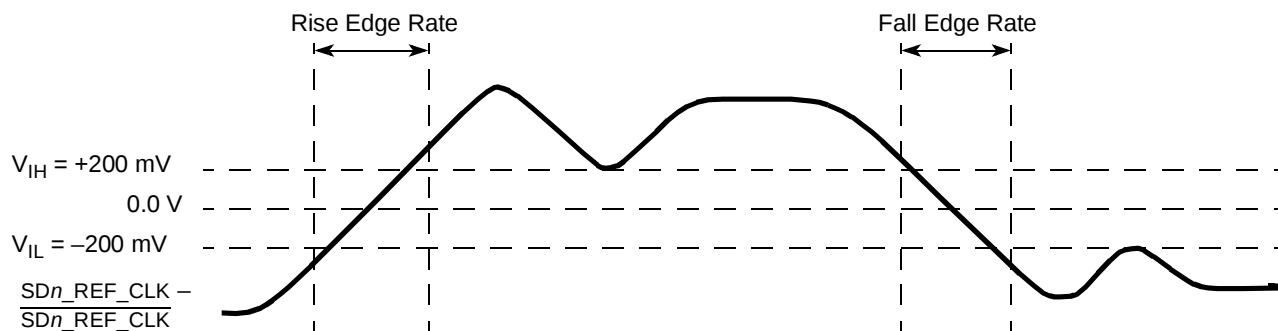

Figure 47. Differential Measurement Points for Rise and Fall Time
- Measured from −200 mV to +200 mV on the differential waveform (derived from $\overline{\text{SDn_REF_CLK}}$ minus $\overline{\text{SDn_REF_CLK}}$). The signal must be monotonic through the measurement region for rise and fall time. The 400 mV measurement window is centered on the differential zero crossing. See Figure 47.